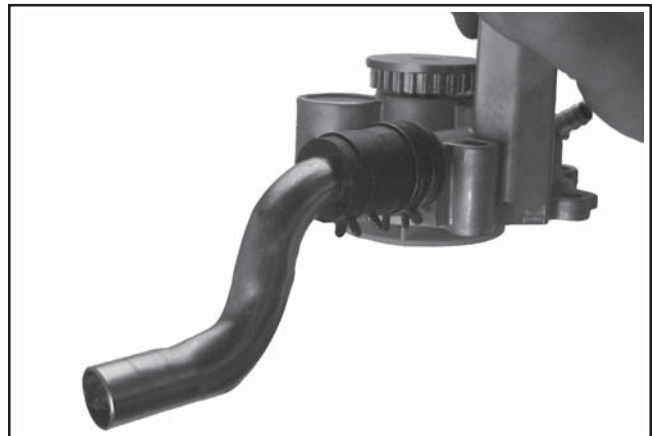

Figure 11-61. Tube and Second Clamp Installed.
6. Slide the smaller diameter clamp onto the extruded end of the formed metal tube and insert this end of the tube into the hose section. Position the tube so its formed offset leads down and away from the outlet, perpendicular to the pump, as shown in Figure 11-61. Install the clamp onto the hose and position the tangs of the clamp parallel to those of the first clamp.